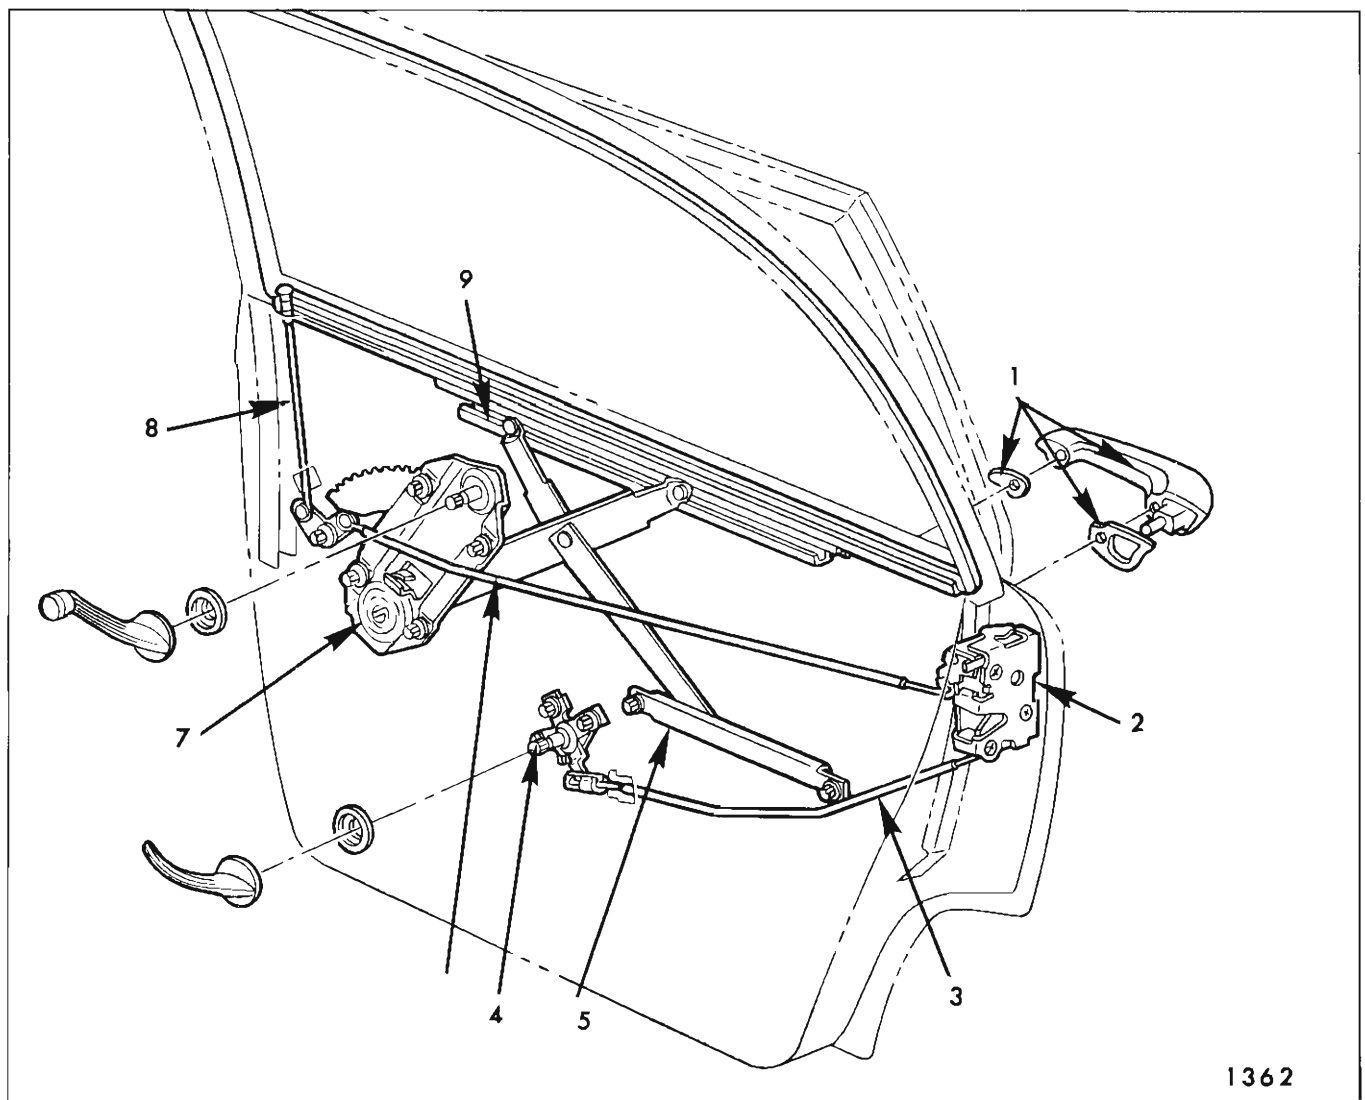

Fig. 2D36—Rear Door Hardware
2. With door properly supported, remove upper and lower hinge attaching screws (See Fig. 2D37 and Fig. 2D38).